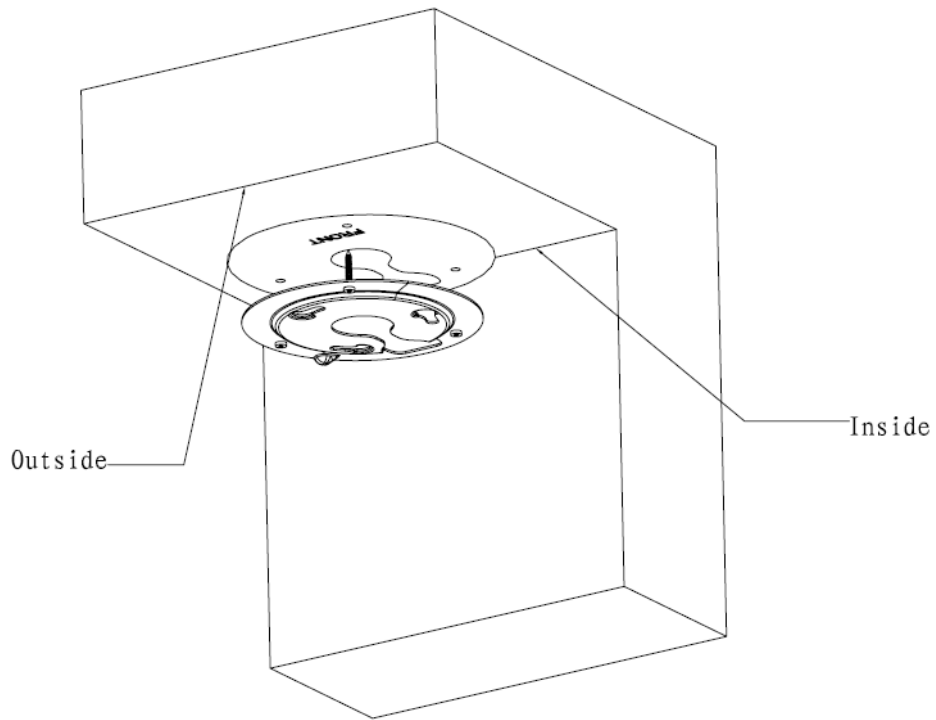

Figure 3-2
- 3) Turn three quick installation screws to the screw holes at the bottom of the pedestal. Pull the cable through according to your cable exit mode. Use three self-tapping screws to secure the sheet metal on the ceiling. Insert the screws to the expansion bolts. See Figure 3-2.